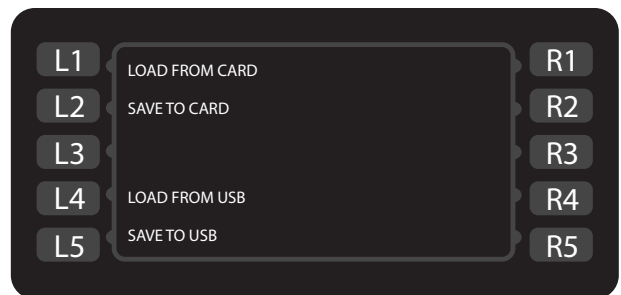

Figure 15: Load Menu Screen
From screen 2 of the Info mode, press the R1 soft key to access the “Load Menu” screen (Figure 15).
2. Press the L1 soft key to load from a smart card, or the L4 soft key to load from USB* (Figure 15).
2. Press the L2 soft key to save to a smart card or the L5 soft key to save to USB** (Figure 15).